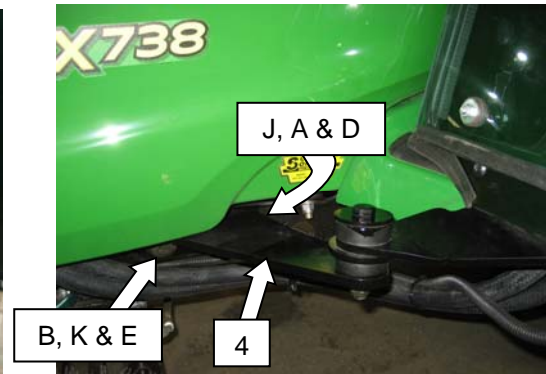

Figure 3
- 5) Place LH front mount (4) against the outside surface of LH machine frame plate. Secure to mount to frame plate using (**Figure 3**):